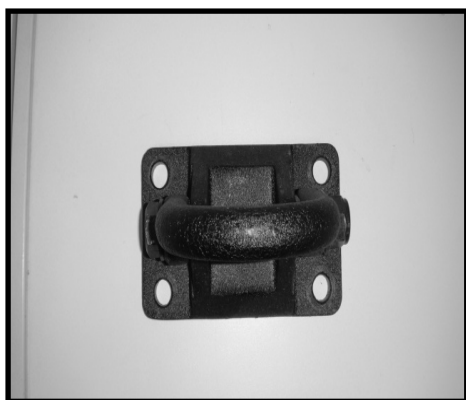
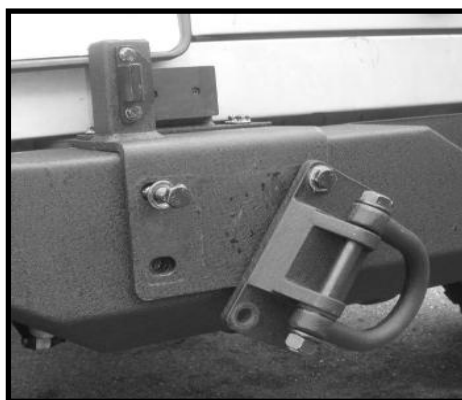
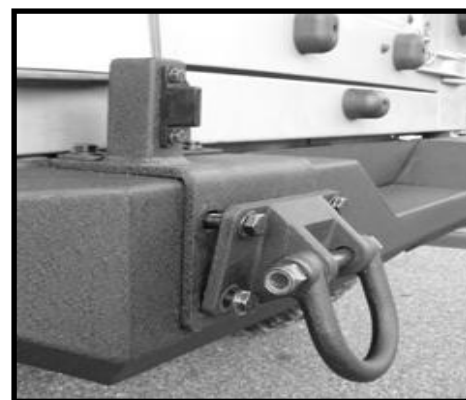

Figure 4.
Figure 5.
Figure 6.
3. Attach catch post bracket to the bumper using a D-Ring. Place a D-Ring; the wider set of holes is the top of the D-Ring (Figure 4), against the catch post bracket, and insert an M12 x 60 bolt and washer through the top right corner of the D-Ring and loosely thread through (Figure 5). Remove the bolt installed in the top left corner and rotate the D-Ring into position and thread the remaining 3 bolts and washers into the D-Ring and sub-frames (Figure 6). Do not tighten bolts at this time.